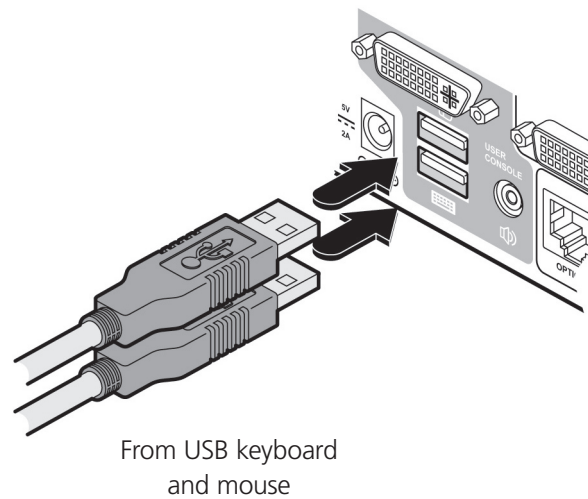

Figure 3-2. Connecting the keyboard/mouse to the user console.
2. Keyboard and mouse: Attach the leads from your USB keyboard and mouse to the USB connectors on the switch that are specifically labeled with keyboard and mouse symbols. The keyboard and mouse will operate in any of the USB connectors, however, True Emulation is not available on connectors labeled USB1 or USB2. See Figure 3-2.